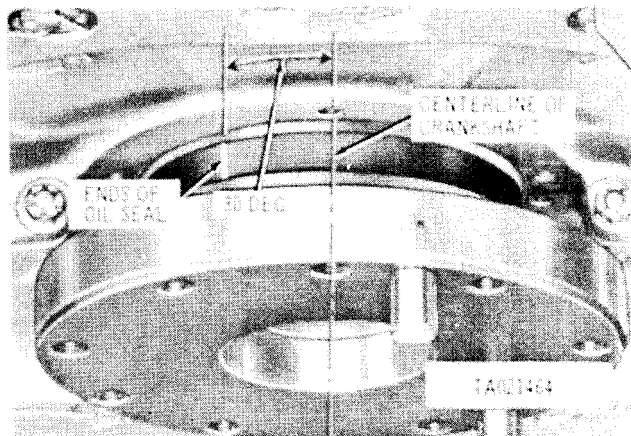

Figure 3-314. Correct position of crankshaft oil seal split line before installing oil seal retainer.
c. The crankshaft oil seal was installed on the crankshaft during repair (fig. 3-171). Rotate the oil seal on the crankshaft until ends of oil seal join 30 degrees from centerline of crankshaft looking at the rear of the engine as shown in figure 3-314. This assists in controlling oil seepage past the split line of the oil seal.
The flywheel dowel pins (fig. 3-314) are so located that the flywheel can be installed on the crankshaft flange in only one position.